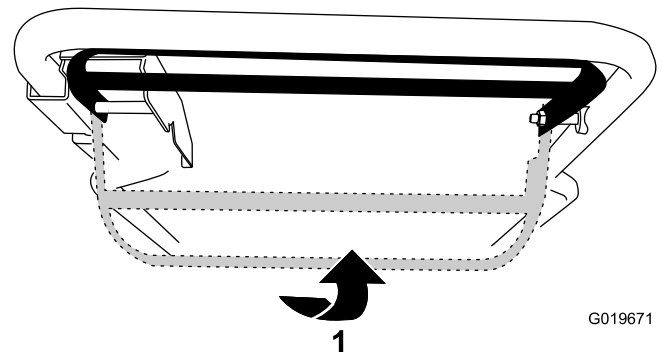

Figure 20
- To operate the self-propel drive without engaging the blades, raise the control bar to the handle (Figure 20).